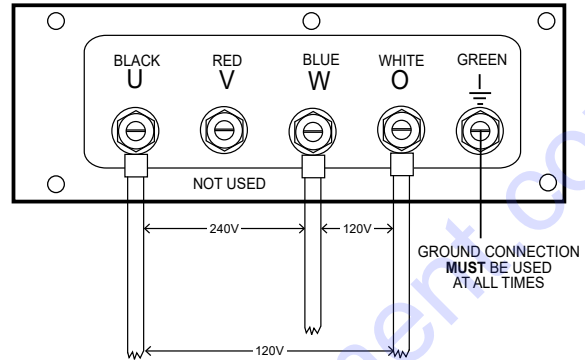

Figure 20. UVWO Terminal Lugs 1Ø-240/120V Connection
2. Connect the load wires to the UVWO terminals as shown in Figure 20.